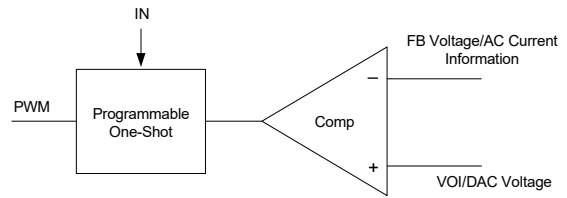

Figure 8. Simplified Control Schematic
The control algorithm of AOZ2339CQI-01 is constant-on-time PWM control with input feed-forward. The simplified control schematic is shown in Figure 8. The high-side switch on-time is determined solely by a one-shot whose pulse width is inversely proportional to input voltage (IN). The one-shot is triggered when the internal VOI/DAC voltage is higher than the combined information of output voltage and the AC current information of inductor, which is processed and obtained through the sensed low-side MOSFET current once it turns-on. The added AC current information can help the stability of constant-on time control even with pure ceramic output capacitors, which have very low ESR. The AC current information has no DC offset, which does not cause offset with output load change, which is fundamentally different from other V^2 constant-on time control schemes.